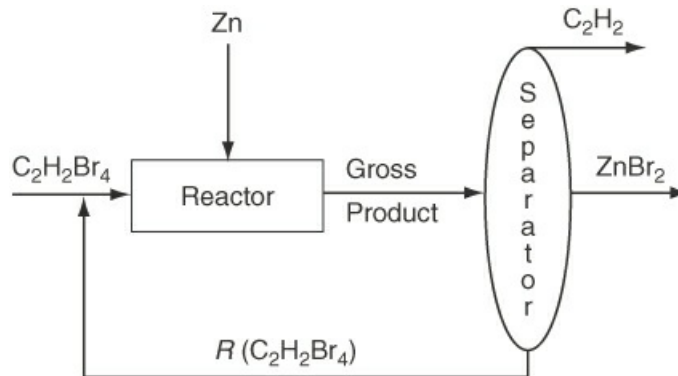

Figure P5.3.11
****5.3.11** The reaction of ethyl-tetrabromide with zinc dust proceeds as shown in Figure P5.3.11.